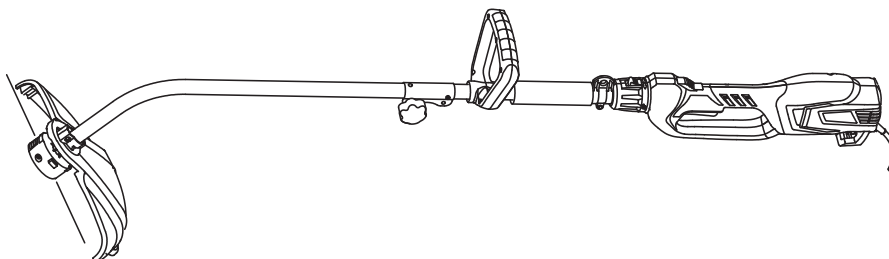

Fig. 12
1. Adjust the angle of the trimming head according to the intended operation (Fig. 12).